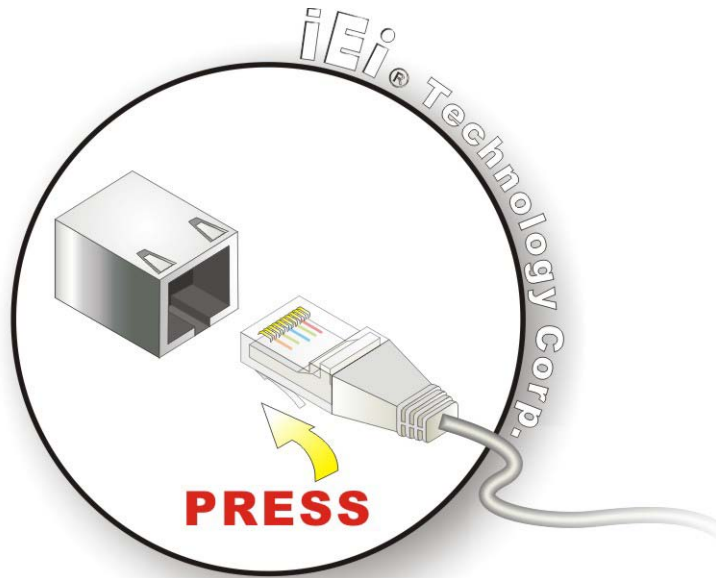

Figure 3-16: LAN Connection
Step 2: Align the connectors. Align the RJ-45 connector on the LAN cable with one of the RJ-45 connectors on the TANK-820. See **Figure 3-16**.